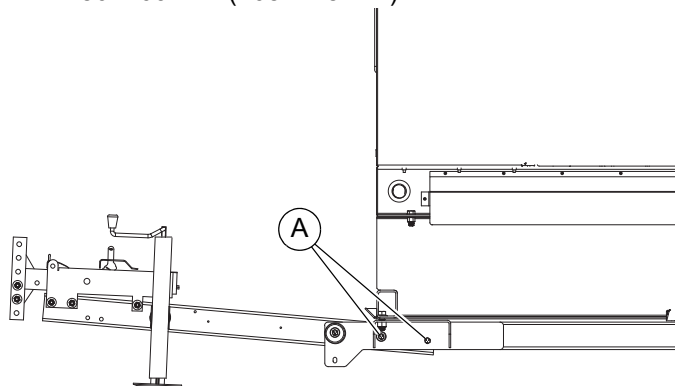

Figure 1-2. Lowering Trailer Tongue
3. Remove the shipping brace and slide it into the trailer tube opening. Secure the brace to the trailer with the bolt located on the underside of the trailer (B) and a new nylon locking nut.
4. See Figure 1-2 Flip the trailer tongue down and reinstall the bolts and washers removed in step two using two new nylon locking nuts (C). **DO NOT**